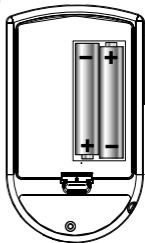

Figure 38
**STEP 2:** Remove the old batteries and replace with new ones. Be sure to align the batteries properly. See Figure 38.